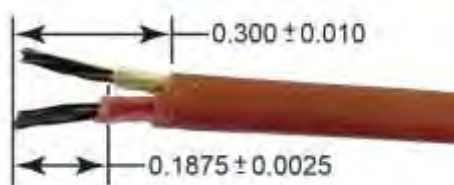

Figure 150
- (3) Using wire strippers or equivalent, carefully strip 0.300 ± 0.010 in. (7.62 ± 0.254 mm) of cable outer jacket as shown in Figure 150.
- (4) Using wire strippers or equivalent, carefully strip 0.1875 ± 0.0025 in. (4.76 ± 0.0635 mm) of wire insulation as shown in Figure 150.